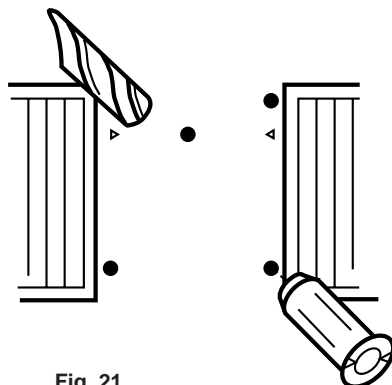

Fig. 21
3. Drill the anchorage holes 63mm (2¹/₂ in) deep to accept suitable wall plugs (Fig. 21).